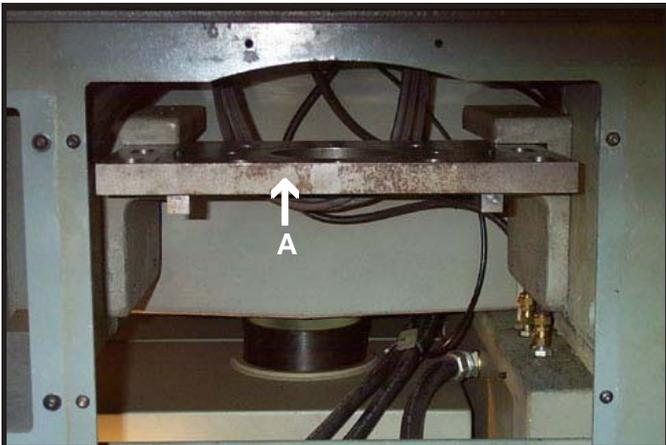

Figure 3.3.6
Swing motor mounting brackets to a horizontal position shown in Figure 3.3.6. Tighten the fourth bolt on each bracket so the motor mounting bracket assembly will stay in this position. Motor mounting plate (A) can be removed now by sliding it towards you.